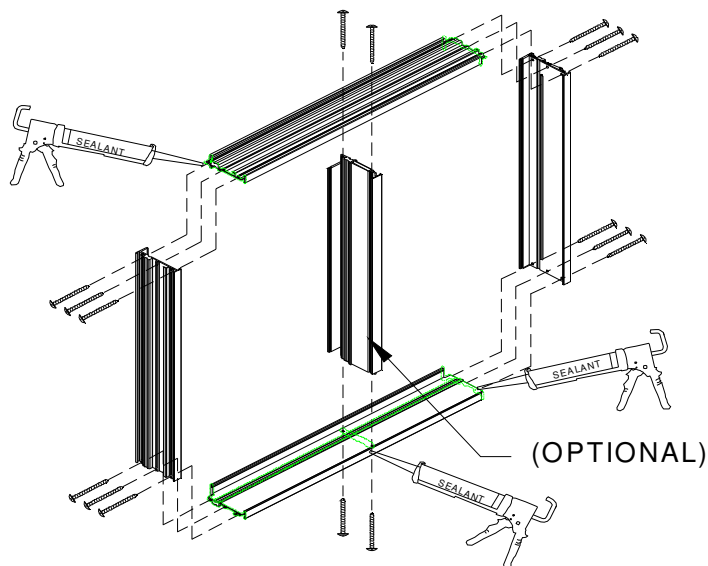

Figure 6:
1. Apply a compatible sealant to the corners of the frame. Assemble the frame with screws provided (Figure 6).
1. Install each full length (vertical or horizontal) TDL bar, using #10 X 1" PHP into pre-drilled holes (Figure 6).